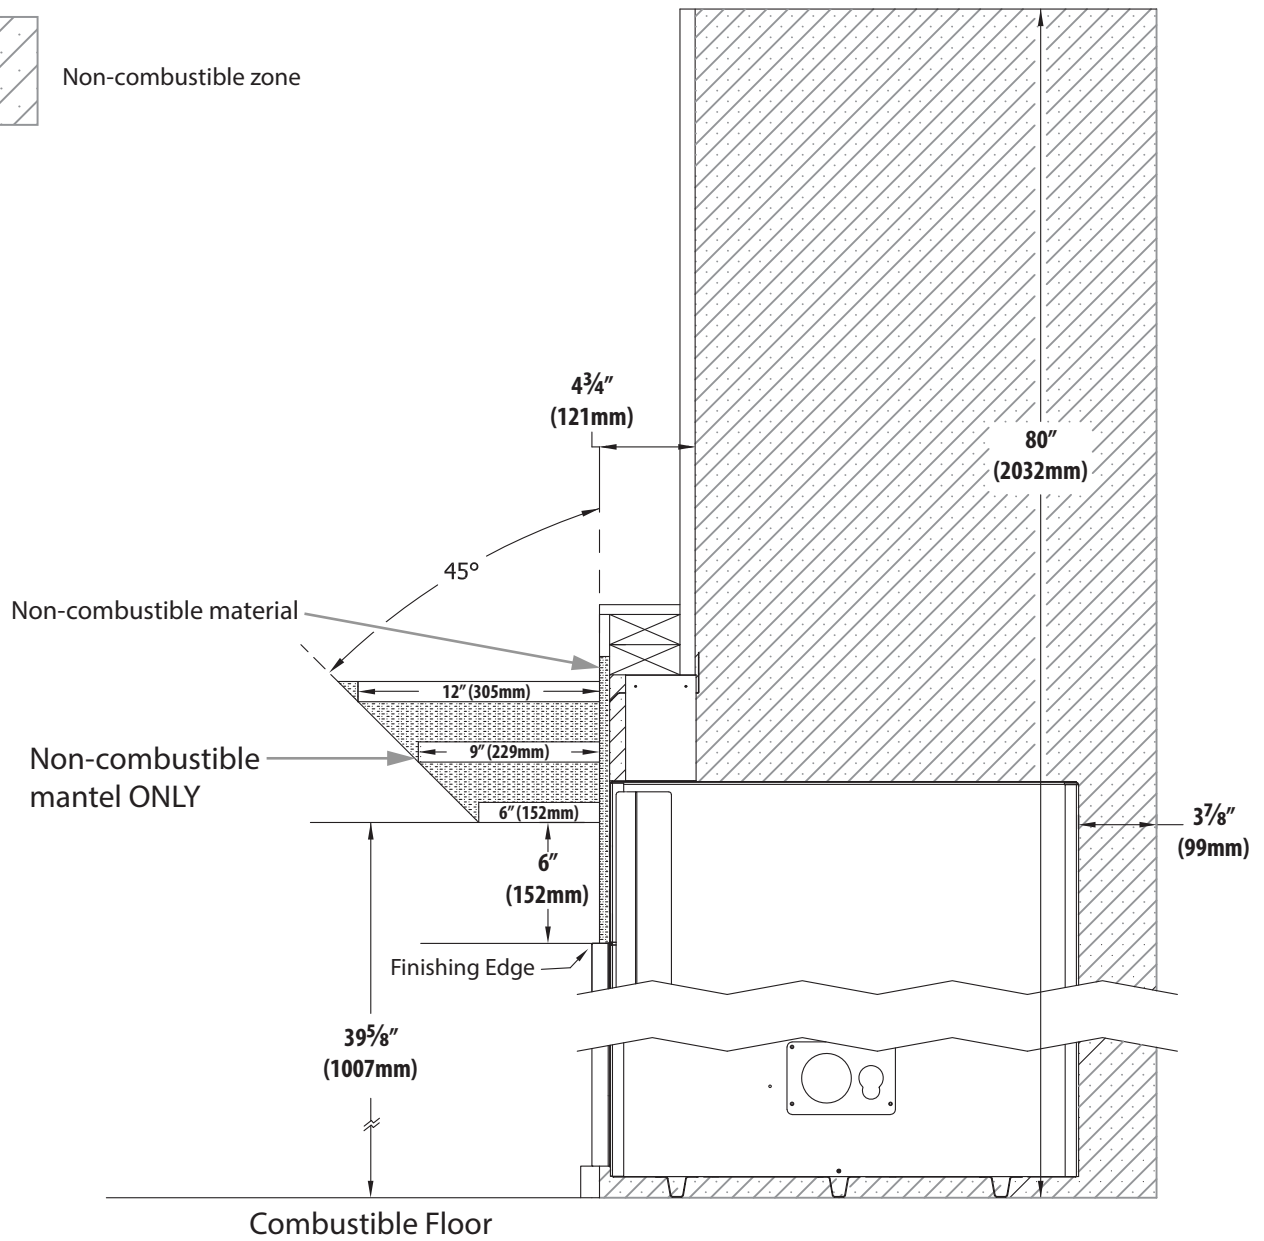

Figure 4.2, Non-Combustible Mantel Clearances
- Non-combustible Mantel Projections - Minimum Vertical and Maximum Horizontal: A minimum vertical clearance of 6" (152mm) above the finishing edge to a maximum 6" (152mm) depth of a non-combustible mantel. Follow projection 1" (25mm) up for every 1" (25mm) deeper. See Figure 4.2 on page 23.